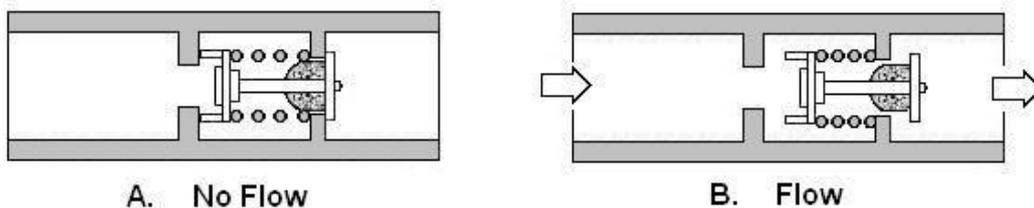

Figure 30 Non-return Valve
**80. Non-return Valves.** The non-return valves (Figure 30) permit flow in one direction and stop flow in the opposite direction. The pressure at the input overcomes the spring tension and air flows through valve. When the input pressure is removed, the spring closes the valve and the back pressure fully seals the valve.